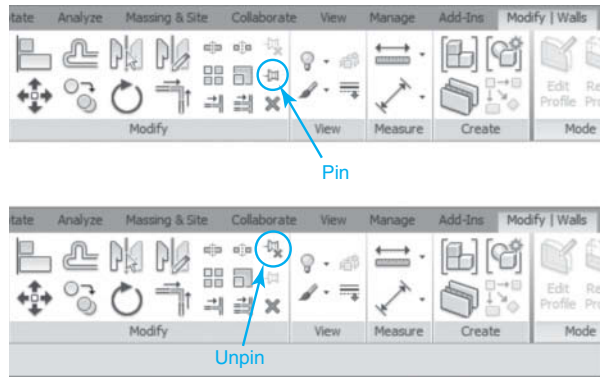

**Figure 2-51**
5. As an example, clicking the right mouse button on a door within a wall will provide all the commands available for the door and its relationship to the wall. **Right mouse clicking** in an empty area of the **Drawing Editor** (drawing area) will also bring up a contextual menu with controls for that view (see Figure 2-51).